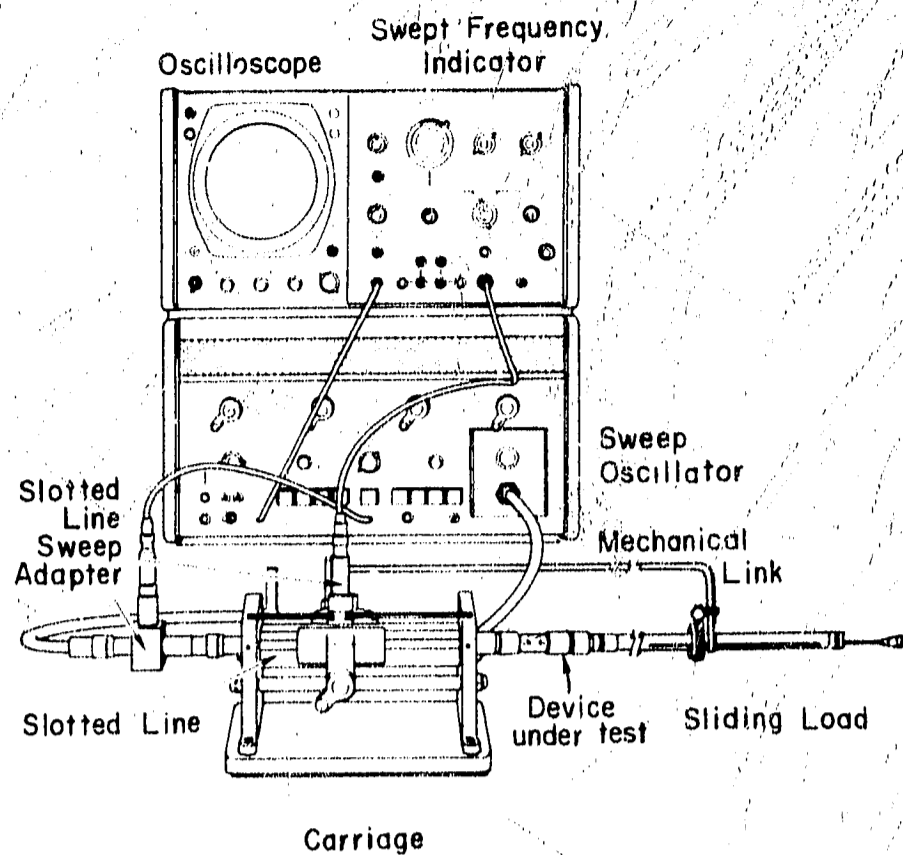

Figure 10. Mechanically-Coupled Sliding Load
44. A more exact method of measuring SWR is to couple the sliding load to the probe mechanically so that they both move together (see Figure 10). This eliminates the effect of reflection due to the load since the load is in the same phase relationship to the